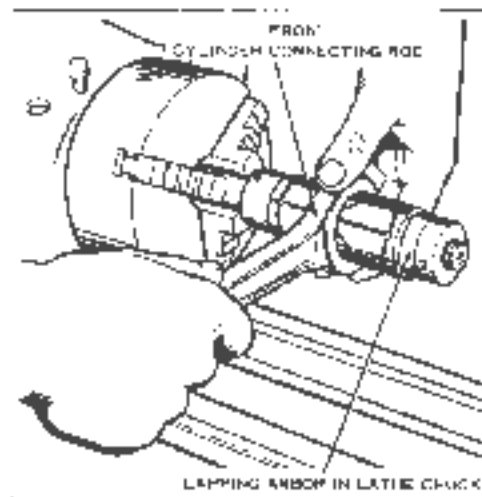

Figure 3-42. Lapping Connecting Rod Bearing Race
1. Carefully cut over areas that are likely to drain oil when the rings of pistons or bearing rollers and are otherwise in serviceable condition, should be true and sized with Connecting Rod Lapping Arbor, Part No. 9674E-36 as shown in Figure 3-42.